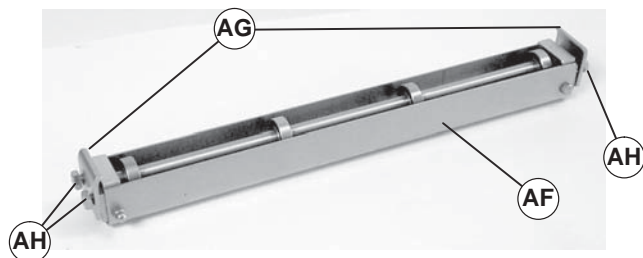
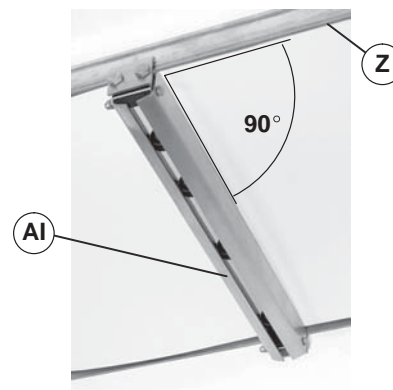

Figure 15
Figure 16
2. Loosely attach two clamp plates (Figure 15, item AG) on roller and guard assembly (AF) with four screws (AH). Do not tighten screws.
3. Attach return roller assembly (Figure 16, item AI) on conveyor (Z). Make sure return roller assembly is perpendicular with conveyor frame as shown. Tighten screws (Figure 15, item AH) to 80 in-lb (9 Nm).